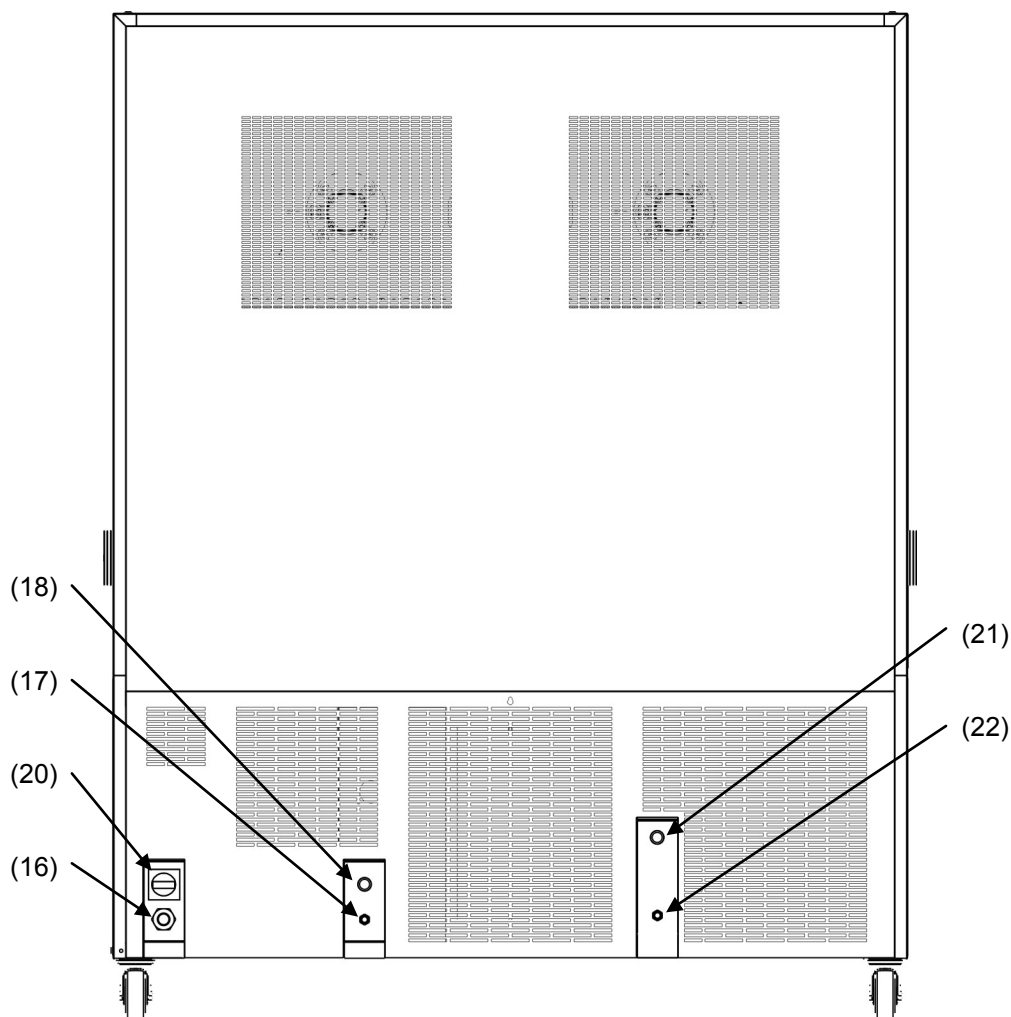

Figure 8: Rear view MKF / MKFT with water connections and optional water cooling
Fasten the wastewater hose to the wastewater connection "OUT" (17) (Figure 8) on the rear of the unit (olive  $\varnothing$  14 mm). Observe the following points:
An enclosure inside the unit contains the connection kit for water supply and wastewater. Install the water supply connection using either the enclosed water hose or another pressure-resistant one. To accomplish this, remove the cover of the freshwater connection "IN" (18) (Figure 8) on the rear of the unit. Protect both ends of the hose with two of the four supplied hose clamps. Before turning on the unit, check the connection for leaks. Water supply is automatically effected via the freshwater connection "IN" (18).
- Fasten the cooling hose to the connection "OUT" (21) (Figure 8) on the rear of the unit (screw thread  $\frac{3}{4}$ ").
- Fasten the cooling water hose to the connection "IN" (22) (Figure 8) on the rear of the unit (screw thread  $\frac{3}{4}$ ").
- Install the water supply connection using either the enclosed water hose or another pressure-resistant one. To accomplish this, remove the cover of the freshwater connection "IN" (22) (Figure 8) on the rear of the unit.